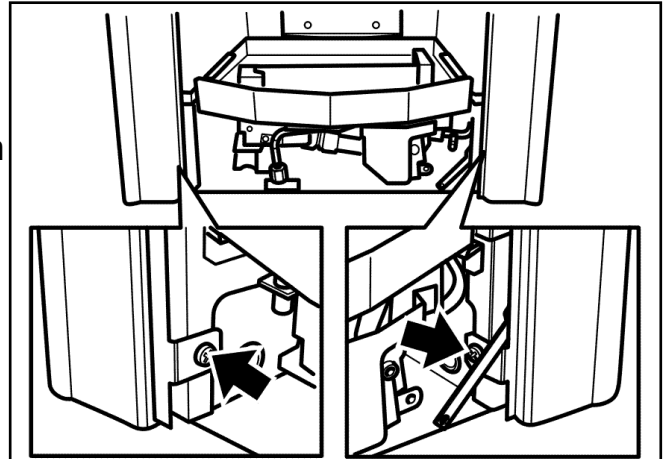

Figure 22. Fascia bottom location.
2. Swing the bottom control linking bar towards the centre of the fire to clear the right side of the fascia. Slide the fascia sideways, if necessary, to align the bottom fixing holes with those in the convection box (This will not be possible on the Dream). Fix the bottom of the fascia unit to the convection box with two No.8 x 3/8 screws (See figure 22).